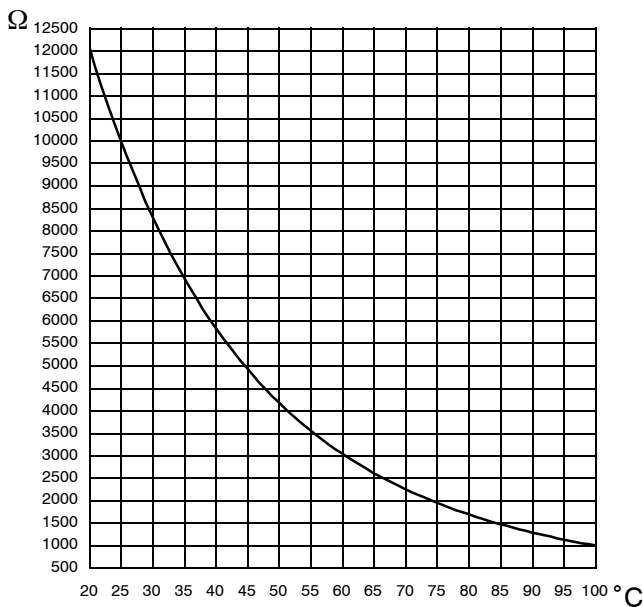
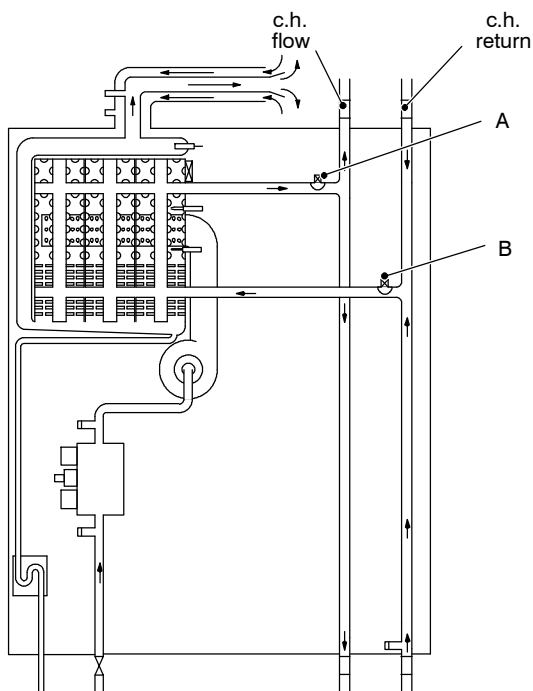
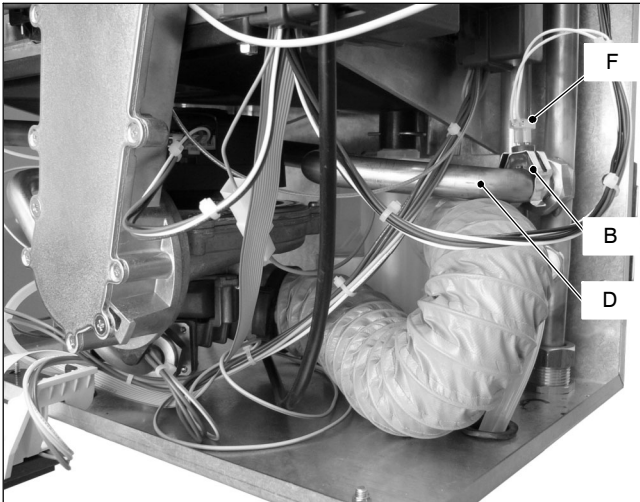

Fig. 9.1
Fig. 9.2
Fig. 9.4
The relation between temperature and electrical resistance is stated in Fig. 9.1.
On the boiler there are two Temperature probes. One on the output of the primary condensing heat exchanger (c.h. flow Temperature probe) *A* in Fig. 9.2 and Fig. 9.3; one on the input of the primary condensing heat exchanger (c.h. return Temperature probe) *B* in Fig. 9.2 and Fig. 9.4.
Measure the temperature of the pipe *C* (c.h. flow Temperature probe)(Fig. 9.3) or of the pipe *D* (c.h. return Temperature probe)(Fig. 9.4) where the Temperature probe is located and check the electrical resistance according to the graph in Fig. 9.1.
- 2 Remove the electric connector *F* and c.h. return Temperature probe *B* – Fig. 9.4